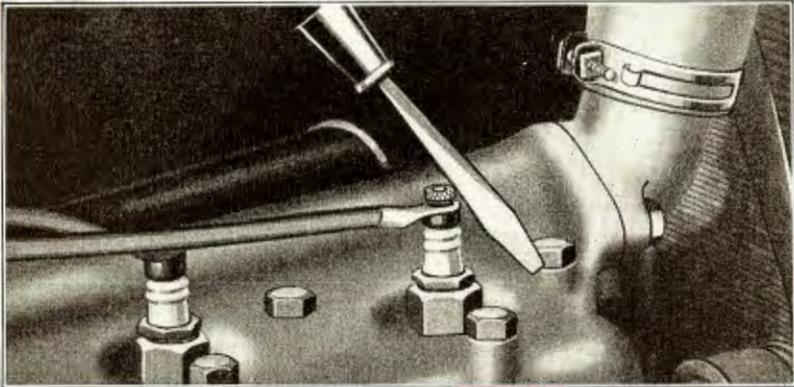

Fig. 502
- 1001** If the trouble indicates itself as lying in the ignition system or valves, start the engine and place a screw driver on the cylinder near one of the spark plugs, then lean it against terminal of spark plug (See Fig. 502). This shorts the current past the spark plug. A screw driver with a wooden handle should be used when making this test to prevent receiving a shock. Check each plug in this manner until one is found which makes no change in the sound of the exhaust from the engine. When this plug is found, the trouble lies in the ignition or valves of that cylinder. (As the miss is more likely to be due to ignition than valve trouble it is advisable to check the ignition first.)